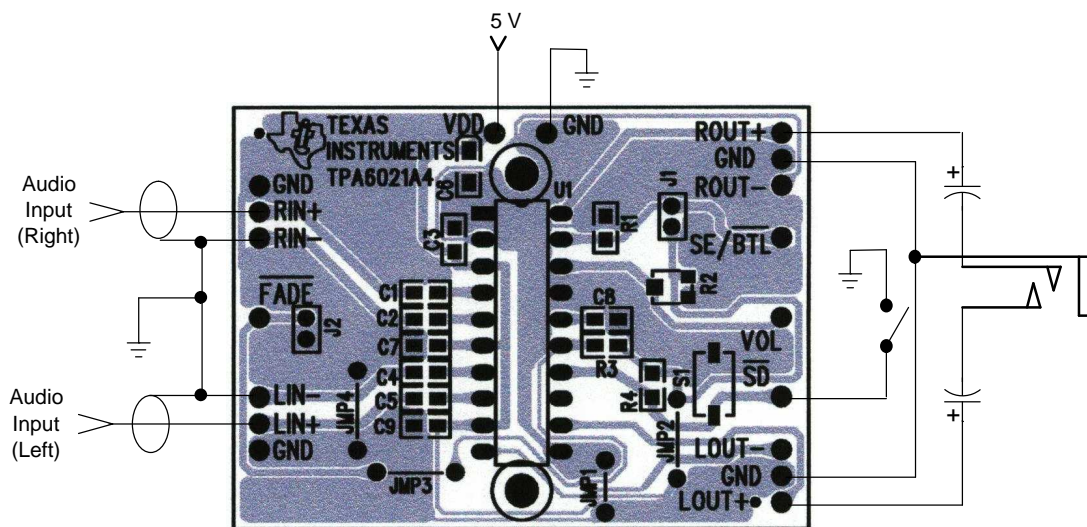

Figure 3. TPA6021A4 EVM Connected for Stereo Single-Ended Output
- b. For single-ended output, connect a headphone or a speaker to the module OUT+ and GND pins of each channel through a 33- $\mu$ F to 1000- $\mu$ F output-coupling capacitor (see Figure 3).
- a. **SE/BTL**: A high selects the single-ended (SE) output mode; a low or float selects the bridge-tied load (BTL) output mode.